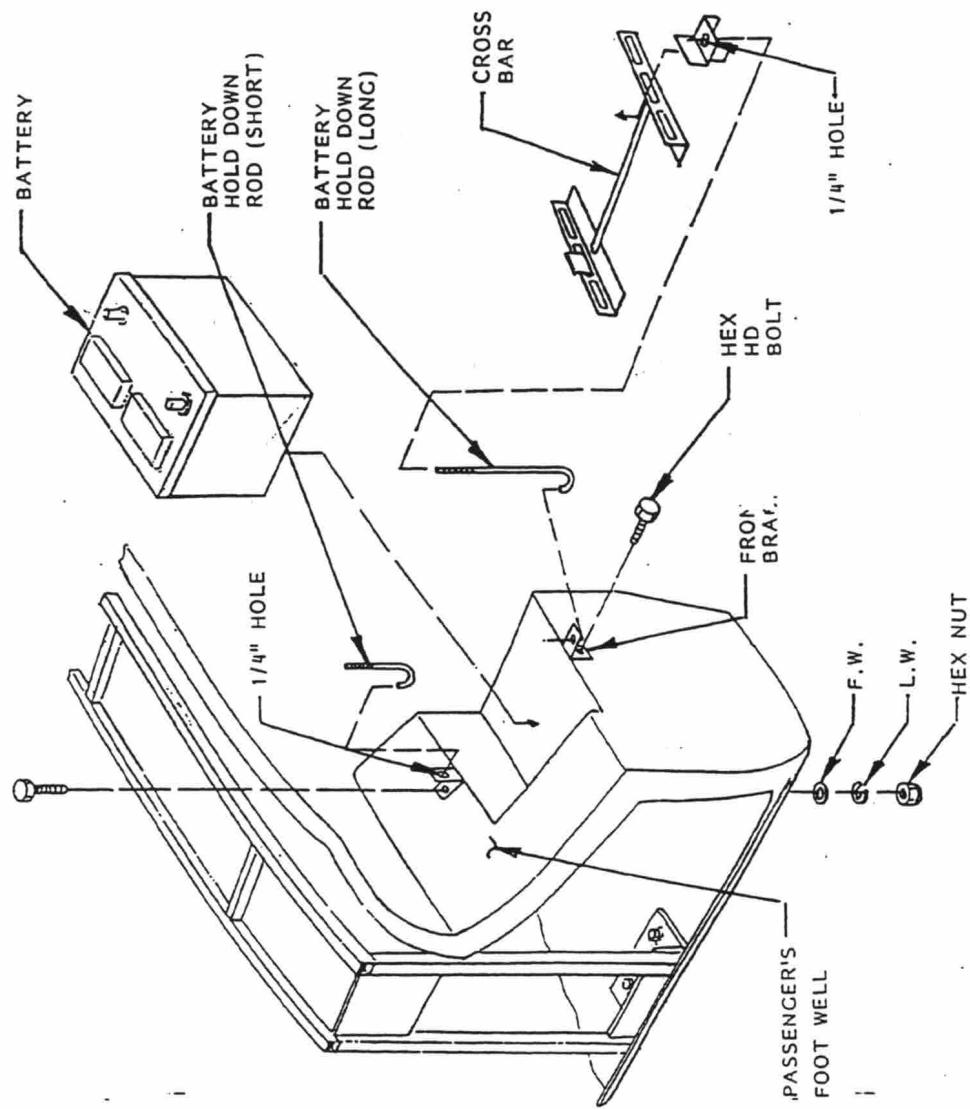

Figure 2-38
**NOTE:** To attach the bolts to the foot well, use two pieces of flat steel, 1/8" thick, 1" wide, 3" long. Drill a 5/16" hole 1/4" from each end and bend in half, 90°. Attach to the foot well, as shown in Figure 2-38.